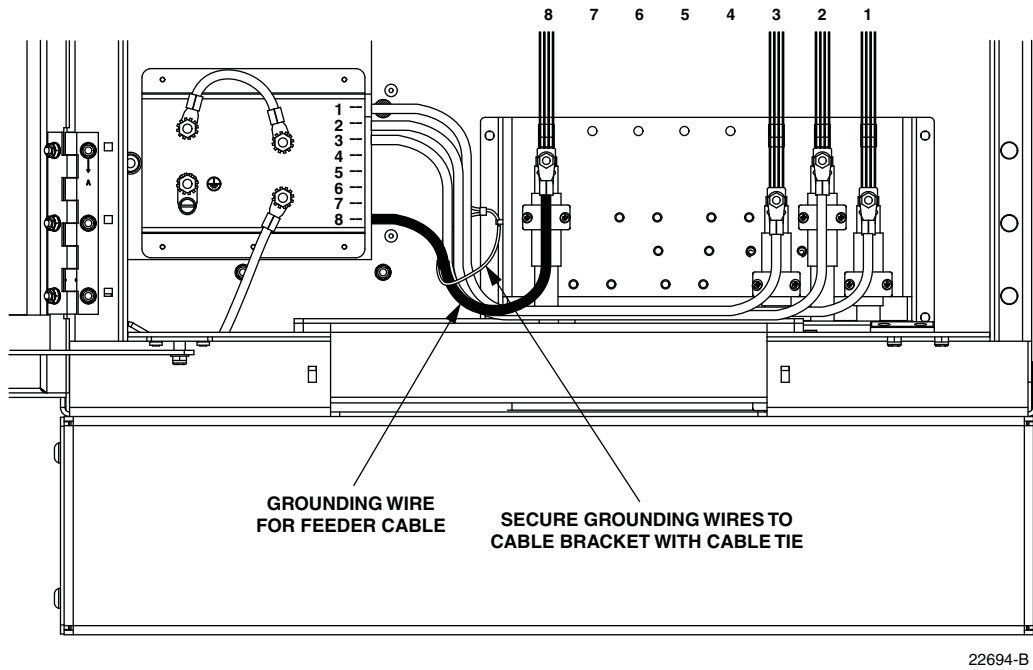

Figure 21. Route Grounding Cable to Grounding System
3. Route the feeder cable jumper wire to the weather-seal strip as shown in Figure 21 and push the free end of the wire through the hole that corresponds to cable 8.